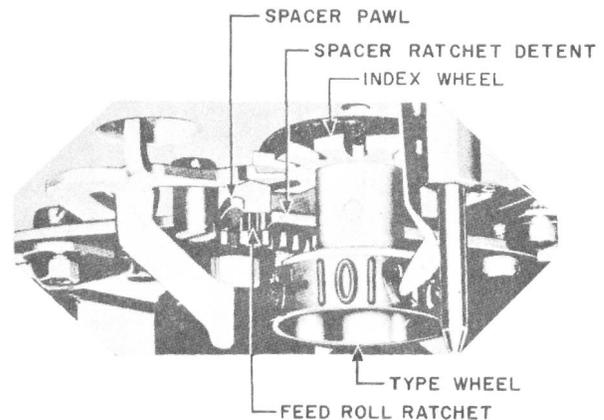

Fig. 13 -- Spacer Pawl, Spacer Ratchet Detent and Feed Roll Ratchet
(1) Remove the tape chute mounting screws using the 3-inch C screwdriver and remove the tape chute. Remove the feed roll mounting screw using the KS-6854 screwdriver. Disengage the end of the pressure bail spring from the post and swing the pressure roll away from the feed roll. Remove the feed roll assembly. Using the 7/16-inch thin wall socket wrench, remove the nut and associated lockwasher provided in the hub and remove the hub. Remove the feed roll from the shaft. Substitute the new feed roll and remount it on the feed roll shaft. Remount the hub, lockwasher, and nut and tighten the nut securely. Remount the feed roll assembly on the post so that the feed roll ratchet engages the spacer pawl and the spacer ratchet detent as shown in Fig. 13. Secure the roll in place with the mounting screw. Make sure when doing this that the two shims that were removed are between the hub and the washer.
(2) Position the pressure roll next to the feed roll and hook the pressure roll bail spring in the groove of the post. Remount the tape chute securely with the mounting screws.
3.11 Type Wheel: To replace the type wheel, remove the ink roll fork and roll from the post. Remove the type wheel mounting screws and remove the type wheel. Substitute the new part. Remount the new type wheel on the shaft so that the No. 1 character on the type wheel is in alignment with the reference mark on the index wheel. See Fig. 13. Insert and tighten securely the mounting screws. Remount the ink roll fork and ink roll.